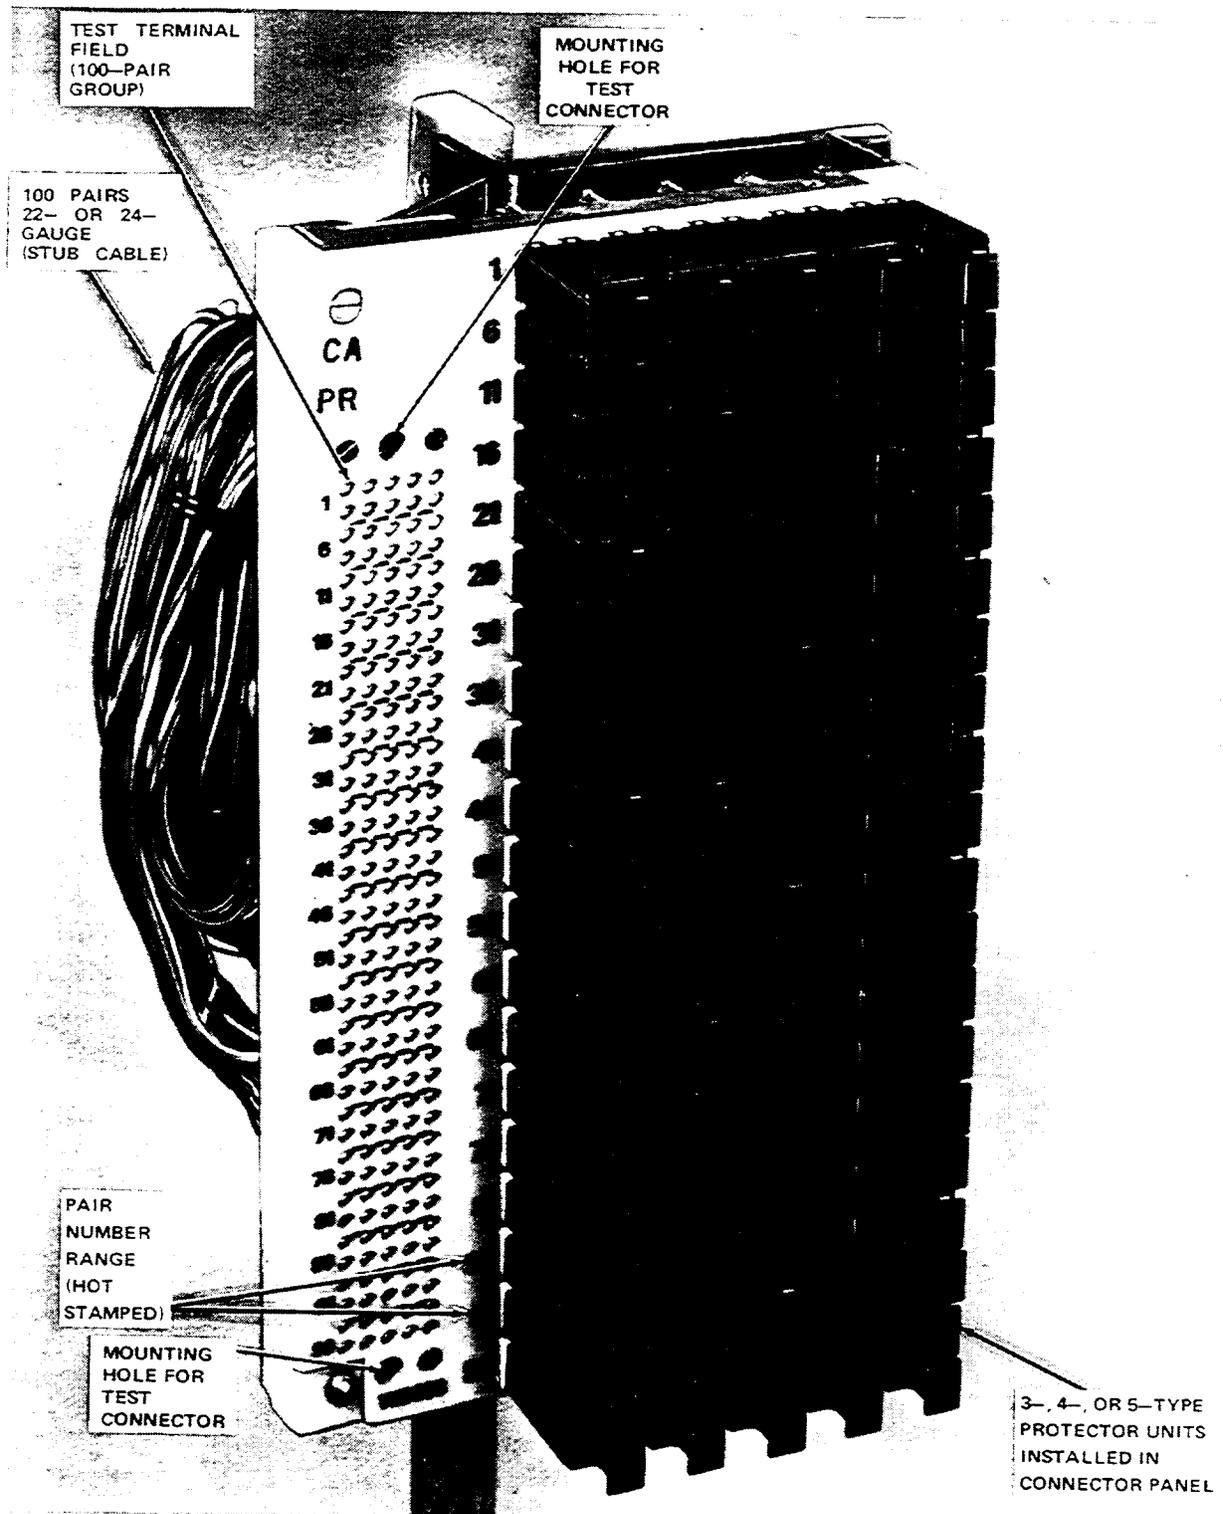

Figure 2—308-Type 2 Connector for use on Low Profile Double-Sided Conventional Protector Frame
**2.03** The 308-type 2 connector (Figures 2 and 3) is a high density connector used to terminate outside plant cables on the ED97755-71 or modified ED97755-70 LPDPF (Low Profile Double Sided Protector Frames). This type is basically the same as the